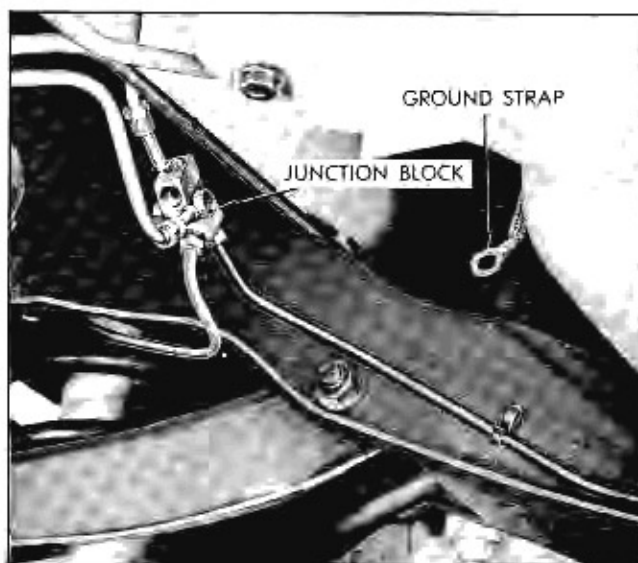

Fig. 3-27 Components to Disconnect From Crossmember
6. Remove ground straps from crossmember on both sides (Fig. 3-27).
7. Disconnect brake lines at junction block on crossmember (Fig. 3-27).